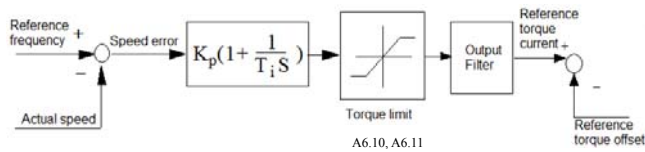

Fig.6-15 Speed regulator
1. The structure of speed regulator (ASR) is shown in Fig.6-15. In the figure,  $K_P$  is proportional gain P.  $T_I$  is integral time I.